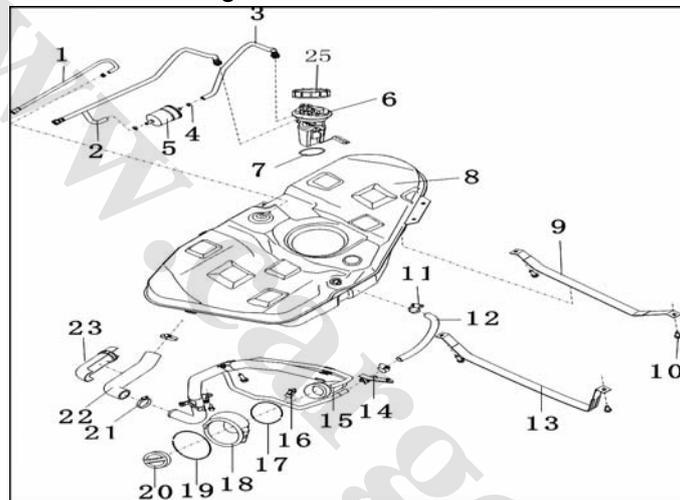

Fig. 2-79
- ① Suck the fuel
- ② Avoid fuel flowing to the floor
- ③ Remove the secondary muffler
- ① Fill fuel
- ② Confirm if there is fuel leakage
- ③ Install the secondary muffler
3. Removal procedures as shown in Fig. 2-79